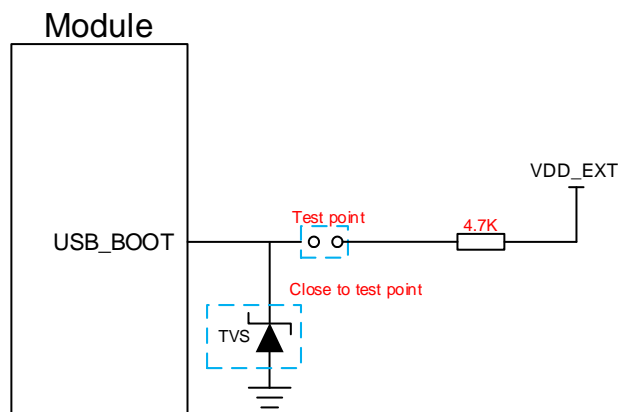

Figure 28: Reference Circuit of USB_BOOT Interface
2. When using MCU to control module to enter into the emergency download mode, follow the above timing sequence. It is not recommended to pull up USB_BOOT to 1.8V before powering up the VBAT. Short the test points as shown in **Figure 28** can manually force the module to enter into download mode.